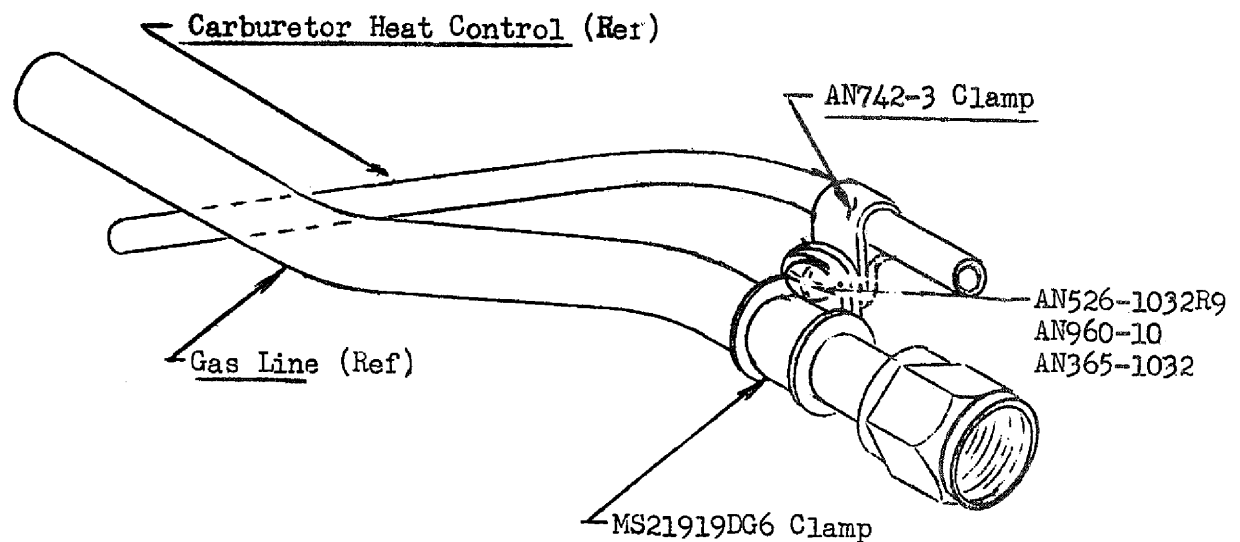

FIGURE 1
3. Install the AN742-3 clamp above the MS21919DG6 on the carburetor heat control as shown in Figure 1.